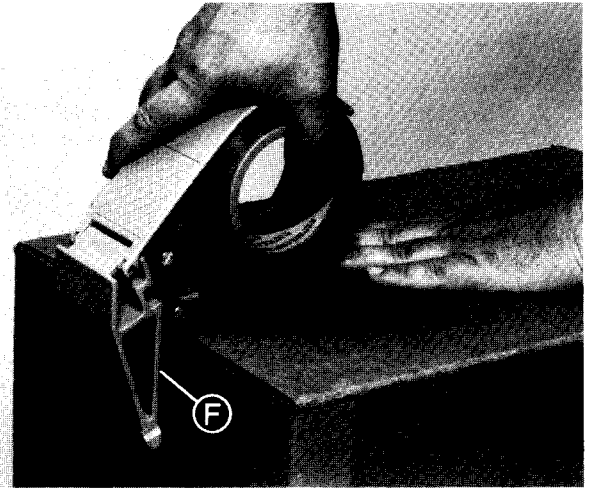

Figure 4
Figure 4 — Place the H-129 applicator pad (F) with tape squarely against the far side of the box, centering the dispenser on the top flaps center seam. Bring the dispenser straight upward, sealing the lead end of tape to the side of the box with the applicator pad (F).